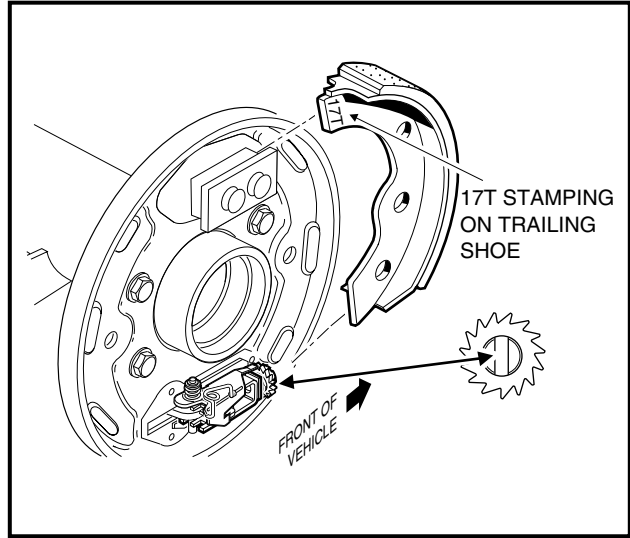

Figure 6-12 Trailing Shoe
1. Turn the adjusting wheel screw so the shoe slot is vertical, then position the trailing shoe in the slots in the shoe mounting block and adjuster assembly (Figure 6-12, Page 6-7). See following **NOTE**.
NOTE: The trailing shoe has 17T stamped into the tip of the shoe flange (Figure 6-12, Page 6-7). The leading shoe is stamped 17L. When installing the shoes, the stampings on both shoes should be oriented to the top of the brake assembly. When installing the shoes on the passenger side of the vehicle, the side of the trailing shoe flange marked 17T should be facing out and be visible. On the driver side, the 17L on the leading shoe should be facing out and be visible.